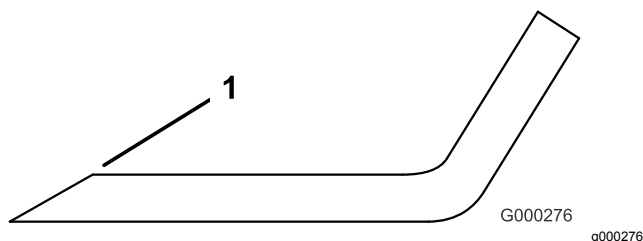

Figure 131
3. Examine the cutting edges of all of the blades and sharpen the cutting edges if they are dull or nicked (Figure 131).
Note: Sharpen only the top of the cutting edge and maintain the original cutting angle to ensure sharpness (Figure 131). The blade remains balanced if the same amount of metal is removed from both cutting edges.